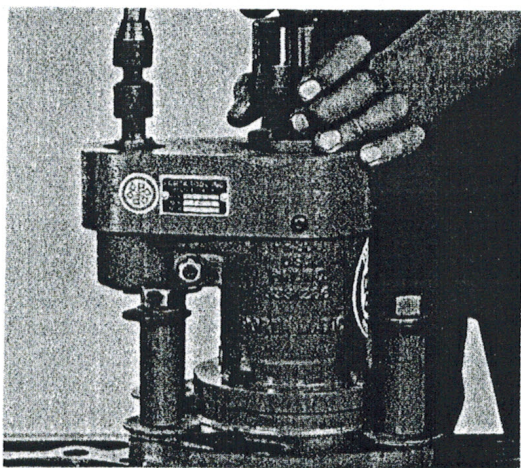

Fig. 10 Retracting Cutter Plate
11. Retract the cutter plate (10 or 32) by turning the needle valve knob counter-clockwise and pulling up. Turn needle valve knob to right to close valve to hold it in the up position. Remove the cutter (13) from the cutter plate and then remove the boring machine. (See Fig. 10).